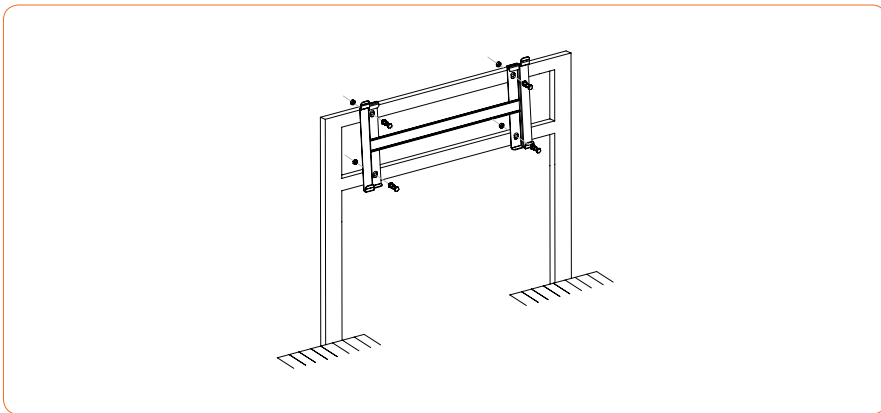

Figure 4-6 Fixing the bracket
③ Follow the instructions in the picture below to install the M10 assembling bolts (bolt, spring washer, flat washer) and tighten the bolts with torque wrench in the torque of 35-40N.m, see Figure 4-6 for details: